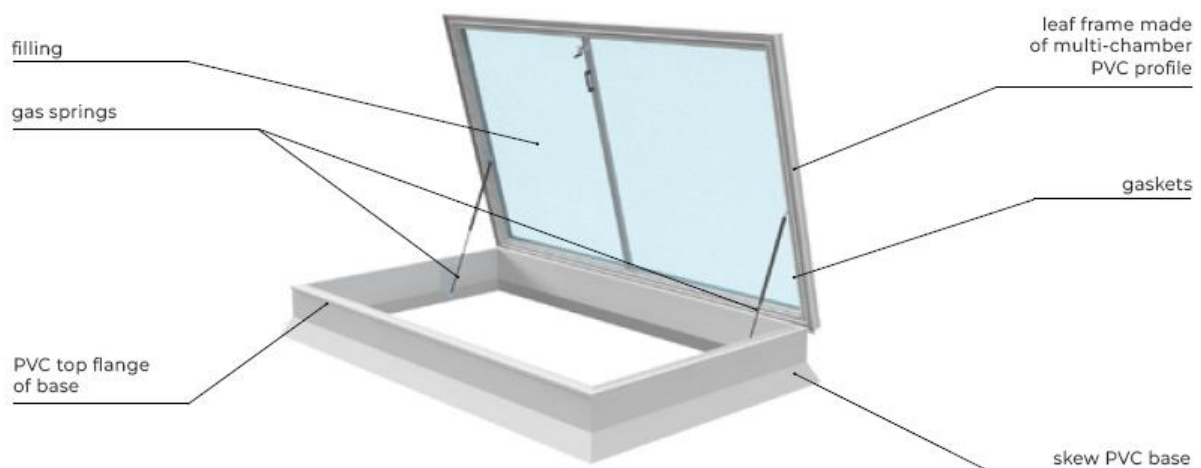
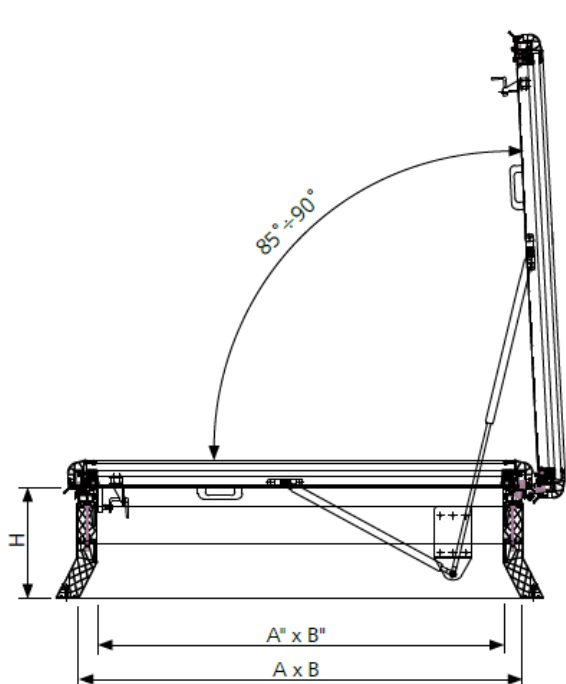
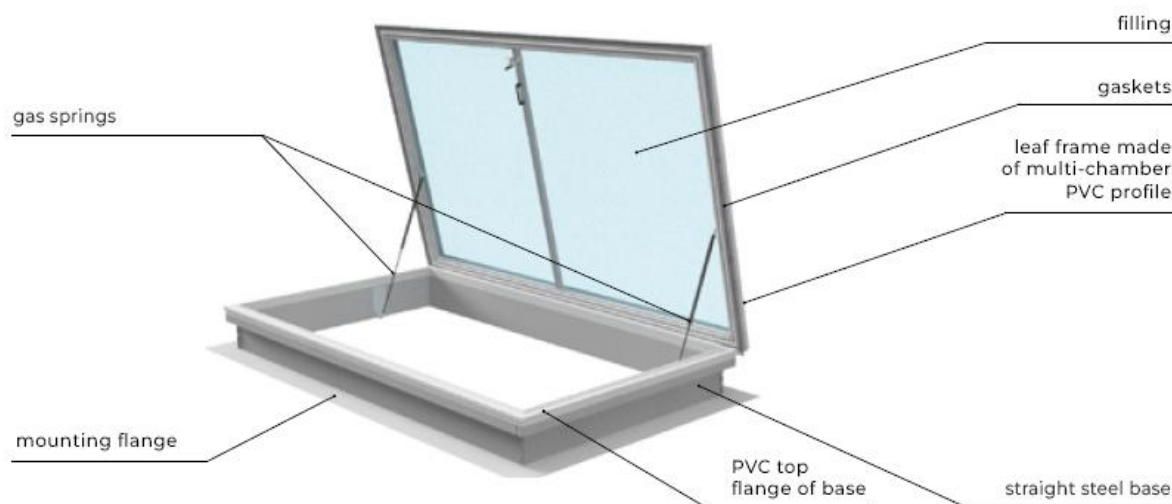

Fig. 11. Roof hatch of mcr ULTRA THERM type with skew PVC base.
Fig. 13. Cross-section trough roof hatch of mcr ULTRA THERM type with straight steel base
Fig. 14. Roof hatch of mcr ULTRA THERM type with straight steel base.
- a) with PVC base → see Fig. 11, Fig. 13,
- b) with metal base* → see Fig. 13, Fig. 14.